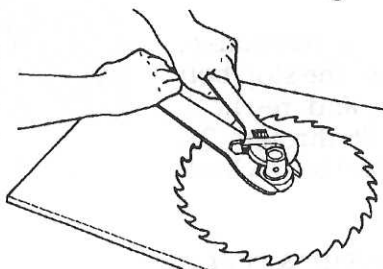
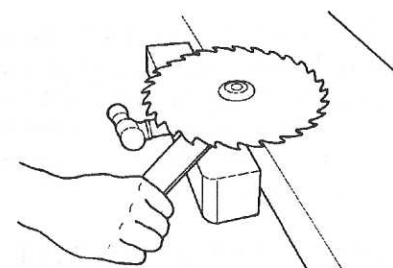

Fig. B-59d
Fig. B-59e
**d.** Hold the arbor with an adjustable wrench and tighten the arbor nut with the arbor wrench, as demonstrated in Fig. B-59d. Another way to tighten the arbor nut is to clamp the arbor in a bench vise, as illustrated in Fig. B-59e, and tighten the nut with the arbor wrench.